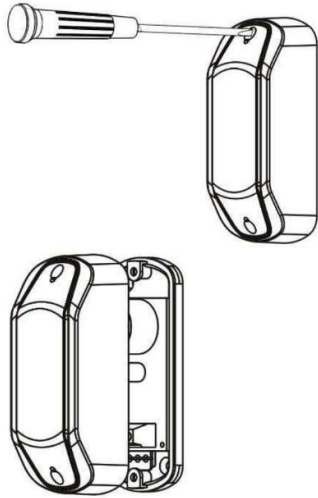

Figure 6.1 – Step 1:
- a. First, remove the front cover of the transmitter module (See also: *Installation, Figure 6.1*).
a. First, remove the front cover of the receiver module (See also: *Installation*, Figure 6.1).